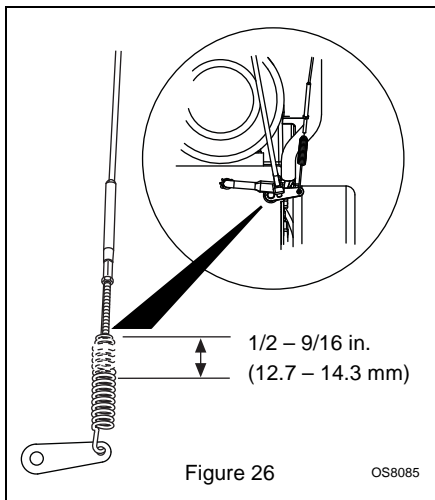

Figure 26
(Figure 26)
2. Adjust cable length (Figure 26).